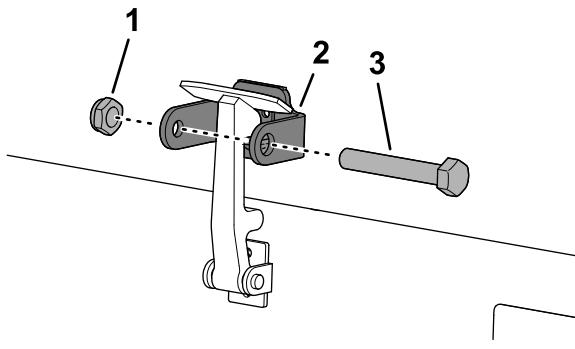

Figure 26
8. Screw the bolt into the other arm of hood-lock bracket to lock the latch in position (Figure 26).